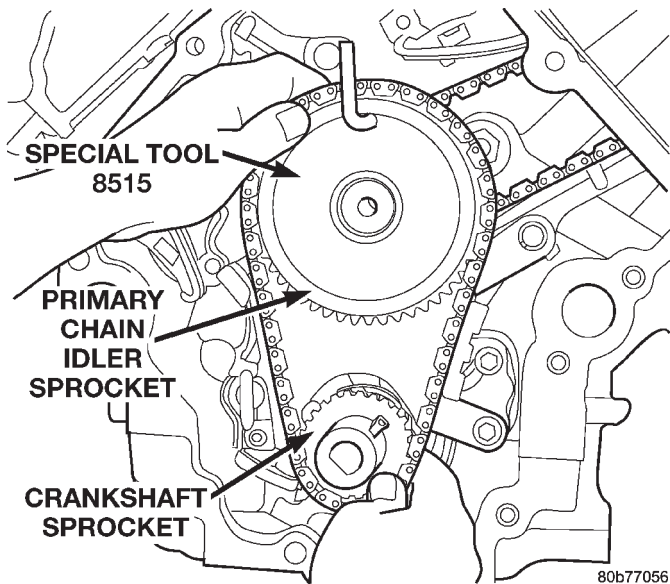

Fig. 71 Installing Idler Gear, Primary and Secondary Timing Chains
(10) Lubricate idler shaft and bushings with clean engine oil.
(11) Install all chains, crankshaft sprocket, and idler sprocket as an assembly (Fig. 71). After guiding both secondary chains through the block and cylinder head openings, affix chains with an elastic strap or the equivalent, This will maintain tension on chains to aid in installation.